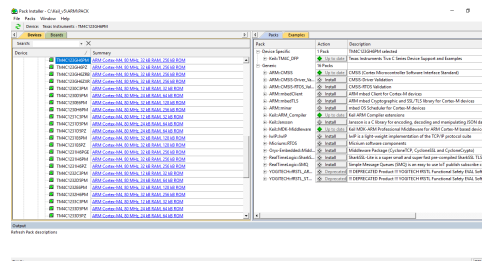

Figure 6: Layout of the Pack Installer interface
- You should see an interface similar to one provided in Figure 6